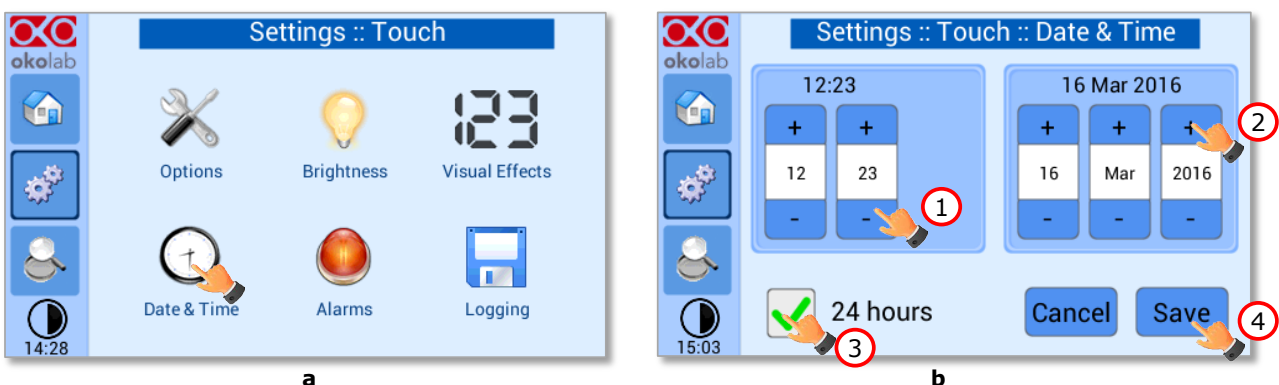

Figure 65. Touch screen settings. Date and Time (a - b).
1. Press the *Date & Time* icon  (see Figure 65 a).
2. Set the values by using the +/- icons (1 and 2 in Figure 65 b).
Tip ► Flag the 24 hours box, if you want to use the hour format based on 24 hours (3 in Figure 65 b).
3. Click on *Save* to confirm (4 in Figure 65 b) or *Cancel* to undo.